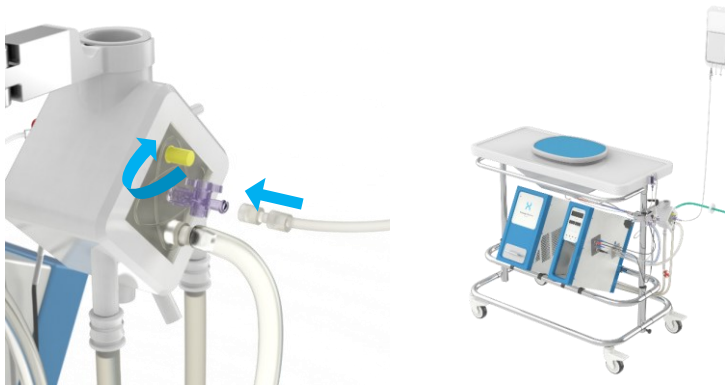

Figure 19 Removal of the yellow cap and connection of filling line
- Remove the yellow de-airing cap on the oxygenator, Figure 19. Do not discard the yellow cap.